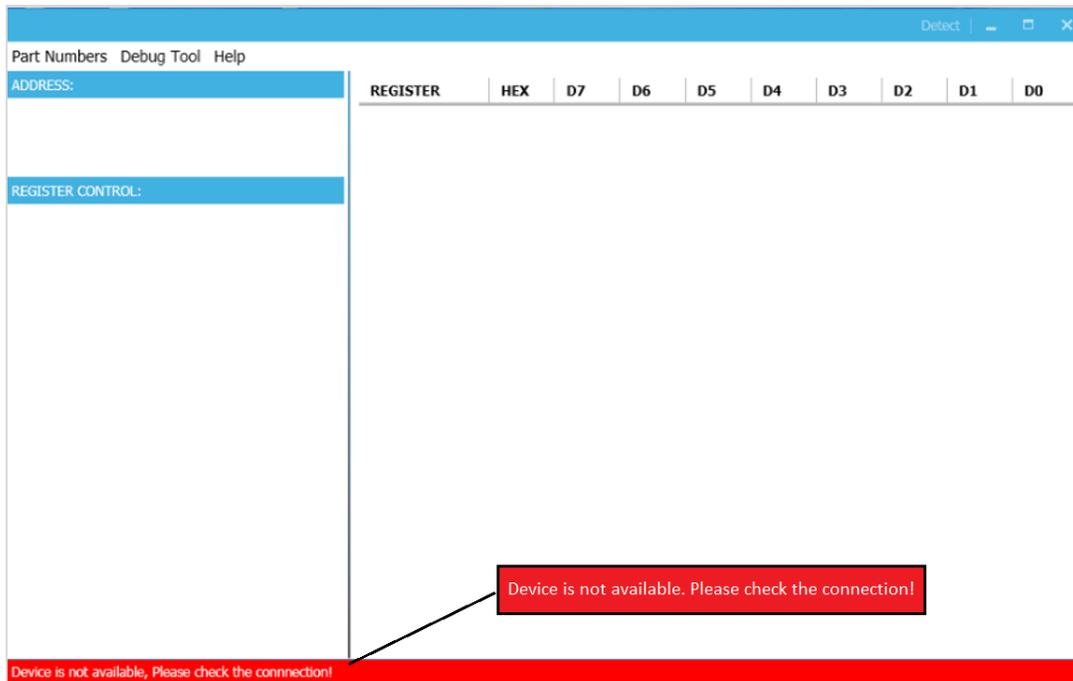

Figure 9: Warning Indicates Unsuccessful Connection – USBI2C Dongle is Not Connected
- 2) “Device is not available. Please check the Connection!” This means that the USB I2C dongle is not connected (see Figure 9).
The screenshot shows the same software window as Figure 9, but now it displays I2C register values. The 'ADDRESS:' field contains '69'. The 'REGISTER CONTROL:' section has three dropdown menus: 'BUCKCONTROL', 'LDOCTRL', and 'SYSCTRL'. The main area on the right is a table with columns: REGISTER, HEX, D7, D6, D5, D4, D3, D2, D1, D0. A 'read all' button is located at the bottom right of the table area.